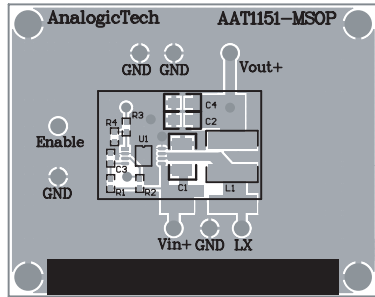

Figure 2: MSOP Evaluation Board Top Layer.
The input capacitor RMS ripple current reaches a maximum when V_{IN} is two times the output voltage where it is approximately one half of the load current. Losses associated with the input ceramic capacitor are typically minimal and are not an issue. Proper placement of the input capacitor can be seen in the reference design layout in Figures 2 and 4.
Figures 2 through 5 display the suggested PCB layout for the AAT1151. The following guidelines should be used to help ensure a proper layout.
- Low pass filter R1 and C3 provide a cleaner bias source for the AAT1151 active circuitry. C3 should be placed as closely as possible to SGND (Pin 2) and V_{CC} (Pin 4). See Figures 2 and 7.